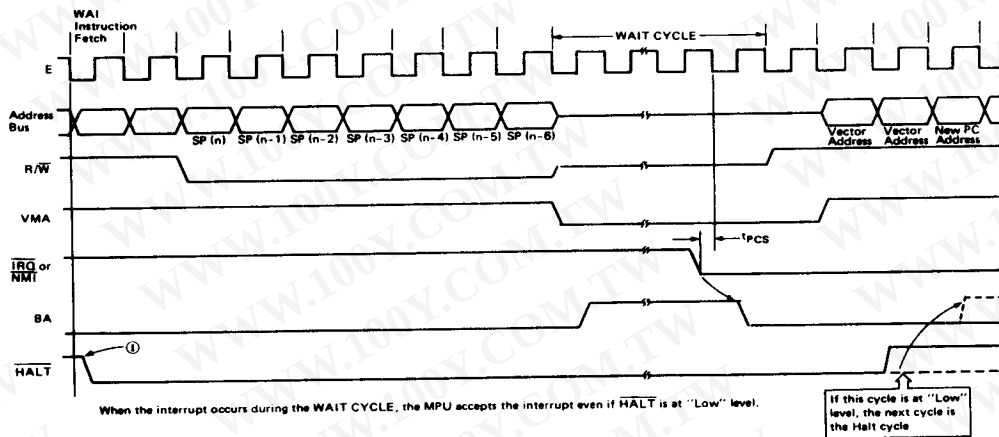

Figure 17 HD6802W WAIT CYCLE & HALT Request
The "Halt" signal is not accepted after the fetch cycle of the WAI instruction (See ① in Fig. 17). In the case of the "WAI" instruction, the MPU enters the "WAIT" cycle after stacking the internal registers and